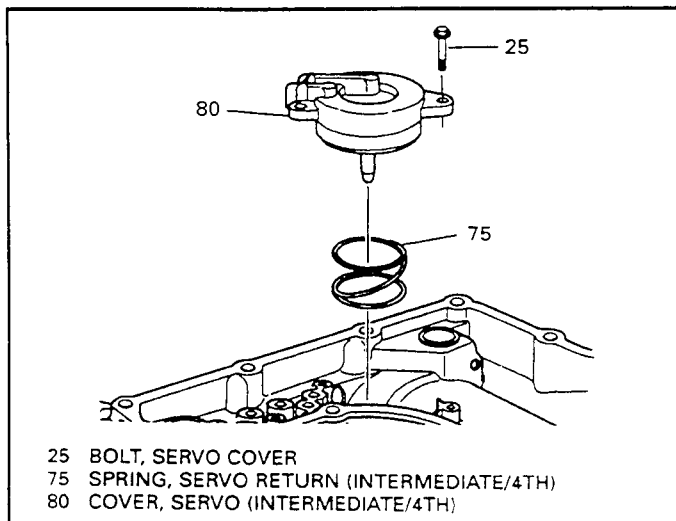

Figure 191
4. Install the intermediate/4th servo return spring (75) into the transaxle case (See Figure 191).
5. Install the intermediate/4th servo cover and piston as an assembly over the return spring as shown in Figure 191.
6. Install the three servo cover retaining bolts and torque to 9 ft.lb. (See Figure 191).